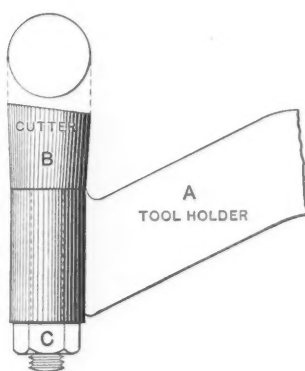

Fig. 6.
An interesting department is that seen in Fig. 6, where the main and parallel rods are machined. The forgings for this class of work are made extremely rough, no attempt apparently being made to have the forgings conform closely to the shape of the finished product as it has been found cheaper to approximate the general shape and depend on the machines to remove the excess of metal. The milling operations carried on here are done largely with cutters made from low grade, or what is generally known as machinery steel. The cutters are made up as usual and are case-hardened to a considerable depth. The loss from breakage and cracking when hardening is practically nothing, and the work of the cutters in steel and wrought iron is said to be highly satisfactory. The cutting edge is found to be about as durable as with the higher grades of steel, the breakage of teeth is greatly reduced and the first cost of the cutter is considerably less than those made of tool steel, especially those made in the larger sizes, as in them both the cost of the material and the time required for machining is more apparent.
H. J. M. describes two forms of lathe tools that are well adapted for accurately turning grooves or fillets of any desired radius. The tool shown in Fig. 6 has a circular cutter B which is turned with a shank fitting the hole through the holder A and is held in position by the nut C on the under side. The cutter B is turned slightly tapering for clearance and can be made concave on top or can be ground to an angle as shown. As these